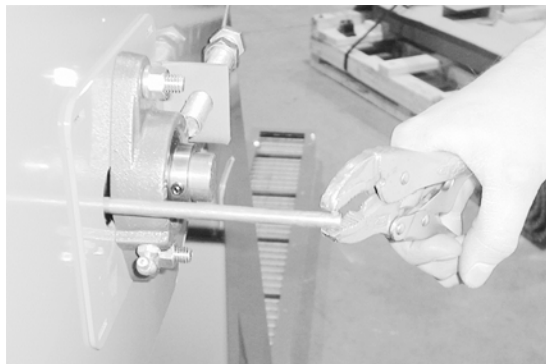

Figure 16: Removing the Axle on a Metal Belt Conveyor
8. Remove the axle from the non-drive side as shown in Figure 16. Install the axle and roller back into the top half of the metal belt to avoid losing the axle, pin, side wings and roller.
9. Remove the axle from the non-drive side as shown in Figure 16. Install the axle and pins, and rollers back into the top half of the metal belt to avoid losing the parts.